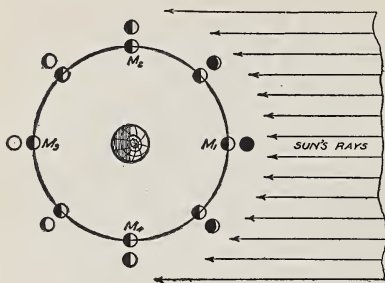

Fig. 154.—Explanation of the Moon's Phases
*Phases of the Moon*—This term means the different appearances of the illuminated surface of the moon. They are due to the fact that the moon is constantly changing its position with reference to both the sun and the earth. In Fig. 154, the moon at M1 is between the earth and the sun. Its dark side is then turned toward the earth, and we receive no light from it. This is the New Moon. About seven days later, when the moon has completed a quarter of its revolution, it reaches the position M2. Half of its illuminated disc is turned to the earth, and it is seen as a half circle. This is known as the First Quarter, while at M4 it presents the same shape and is known as the Third Quarter. In passing from M1 to M2, it appears as a crescent, as in the diagram. When the moon has reached the position M3, half of its revolution has been performed and the whole of its illuminated side is turned to earth, giving us what we call the